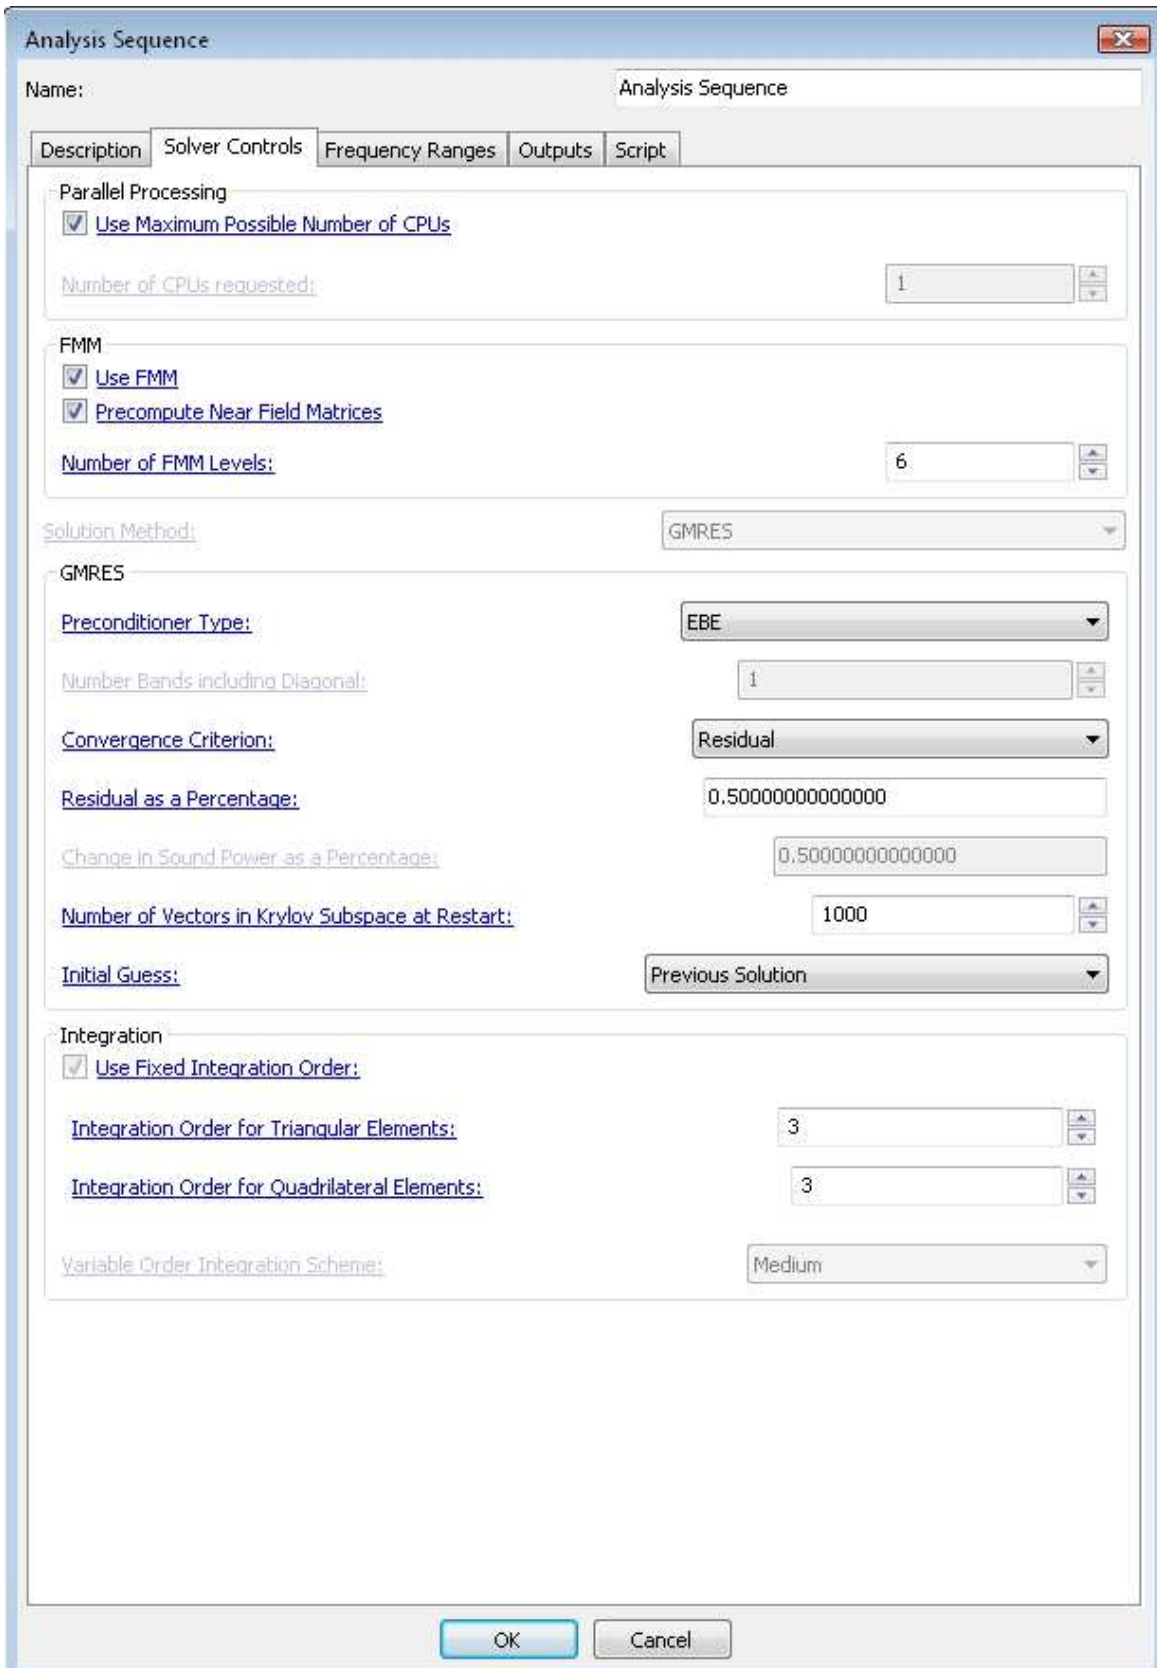

Figure 20: Analysis solver controls.
- Select **Solver Controls** tab to set solver parameters. Refer to Figure 20.